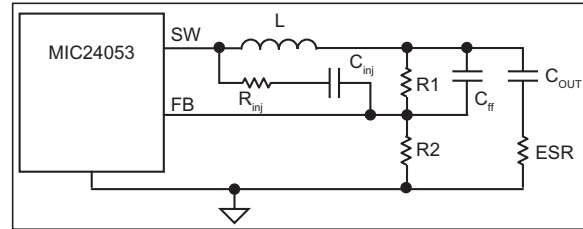

FIGURE 5-3: *Invisible Ripple at FB.*
In this situation, the output voltage ripple is less than 20 mV. Therefore, additional ripple is injected into the FB pin from the switching node (SW) using a resistor (R_{inj}) and a capacitor (C_{inj}), as shown in Figure 5-3. The injected ripple is: